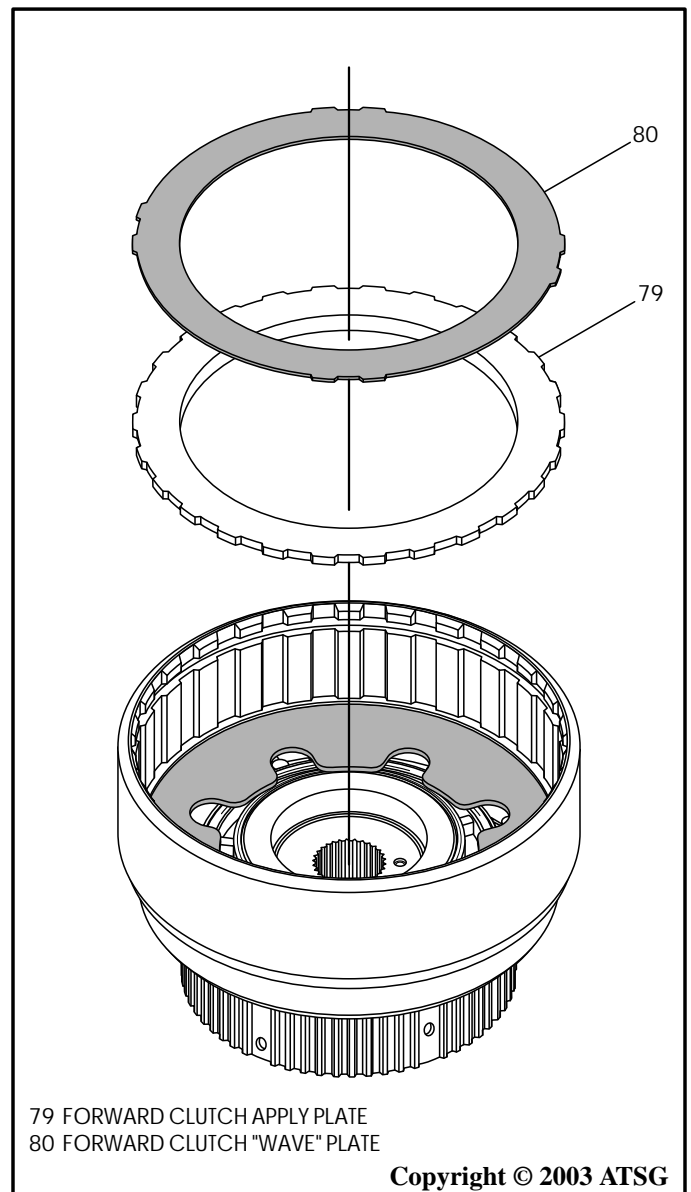

Figure 106
12. Install the forward clutch apply plate with the flat side facing up, as shown in Figure 106.
13. Install the forward clutch "Wave" plate on top of the apply plate, as shown in Figure 106.